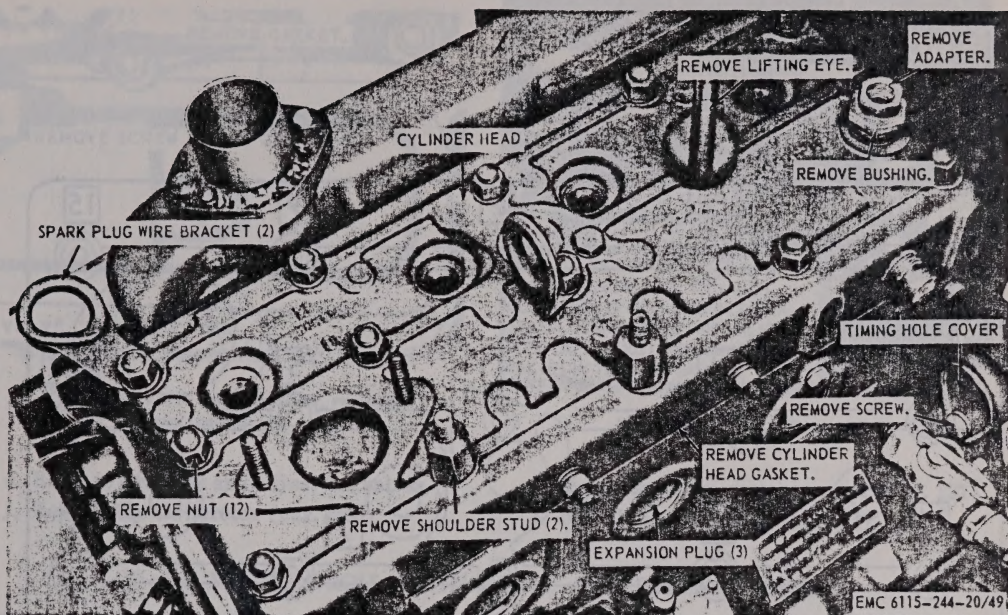

Figure 49. Cylinder head, timing hole cover, and expansion plugs, removal and installation.
- (1) Drain the cooling system (TM 5-6115-244-10).
- (2) Remove the thermostat housing (par. 115).
- (3) Remove the spark plugs and spark plug wires (par. 98).
- (4) Remove the oil filter and oil filter mounting bracket (par. 93).
- (5) Disconnect the capillary tube and thermometer from the cylinder head (par. 132).
- (6) Refer to figure 49 and remove the cylinder head from the engine.
- (1) Refer to figures 49 and 50 and install the cylinder head on the engine.
- (2) Connect the capillary tube and thermometer (par. 132).
- (3) Install the oil filter and oil filter mounting bracket (par. 93).
- (4) Install the spark plugs and spark plug wires (par. 98).
- (5) Install the thermostat housing (par. 115).
- (6) Fill the cooling system (TM 5-6115-244-10).
a. Removal. Refer to figure 49 and remove the timing hole cover from the flywheel housing.
- (1) Clean the timing hole cover and mounting hardware with an approved cleaning solvent and dry thoroughly.
- (2) Inspect the parts for damage and defects. Replace damaged or defective parts.
c. Installation. Refer to figure 49 and install the timing hole cover on the flywheel housing.
a. Removal. Remove a damaged expansion plug (fig. 49) by piercing the plug with a sharp pointed tool and prying out.